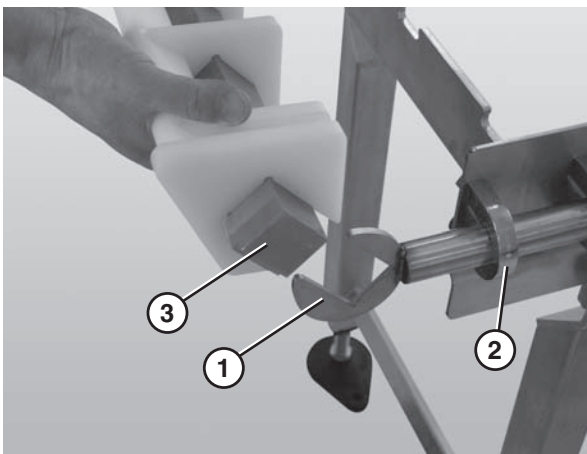

Figure 24
- Slide the nose bar idler shaft hands (Figure 24, item 1) into the take up blocks (Figure 24, item 2).
- Attach the nose bar transfer post (Figure 24, item 3) to the nose bar idler shaft hands.